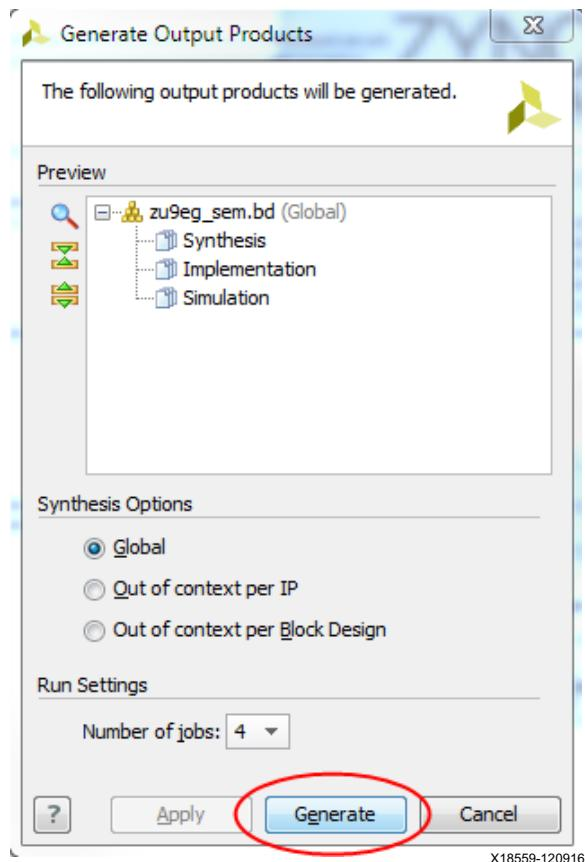

Figure 11: Generate Output Products
- a. Select **Generate**. See Figure 11.